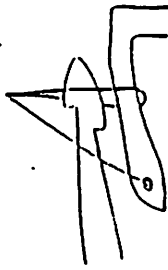

FIG. 5
1. STITCH "TRIANGLE" AND KNIFE RELATIONSHIPS - THE CORRECT CUTTING ORIENTATION IS SHOWN AGAIN IN FIGURE 4, PAGE 8A. FOUR CONDITIONS UNDER WHICH IMPROPER OR NO CUTTING WILL OCCUR ARE SHOWN IN FIGURES 5,6,7 & 8.
IN FIGURE 5, THE SHUTTLE KNIFE DOES NOT EXTEND FAR ENOUGH INTO THE TRIANGLE. IN THIS CASE, ONLY THE LOOPER THREAD WILL BE CUT.